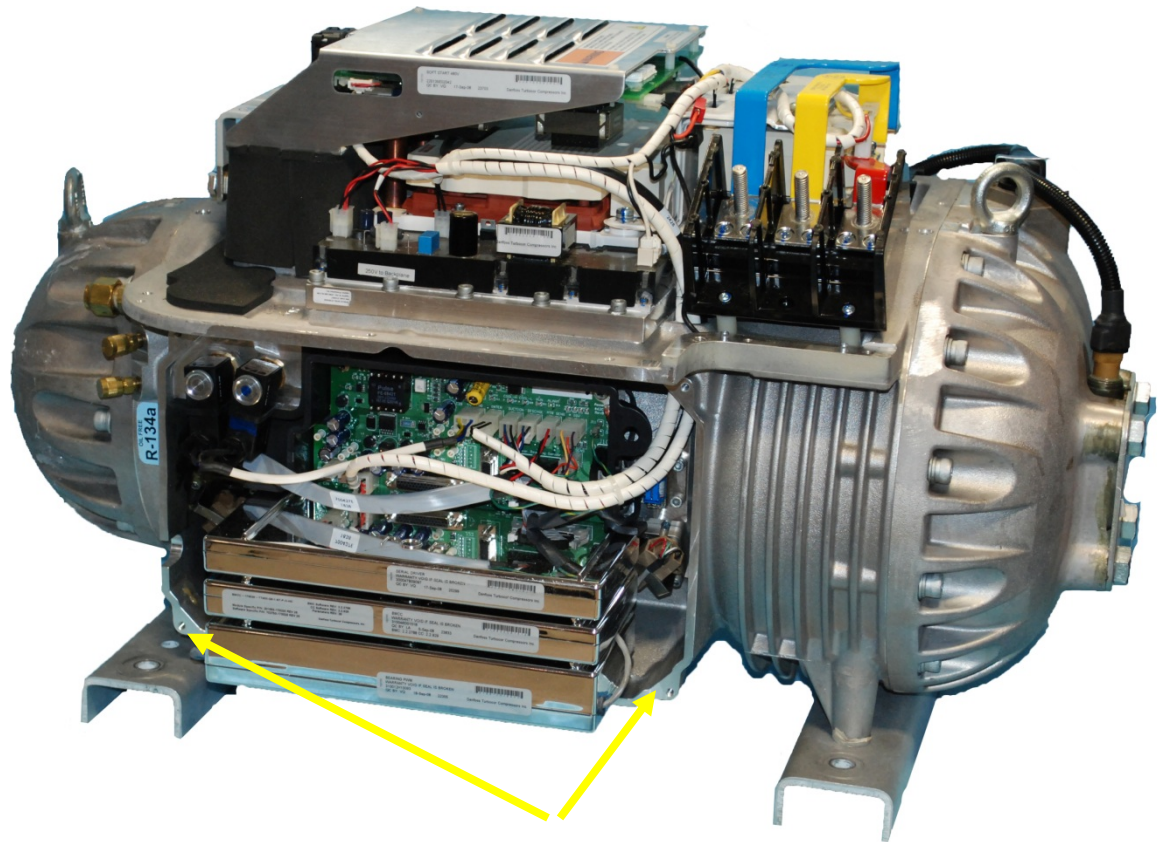

Figure 4: Compressor Grounding Points
4. If you only need to remove the Service Side cover, clip the ESD strap ground to the cover screw hole that is part of the compressor housing. See yellow arrows in Figure 4.